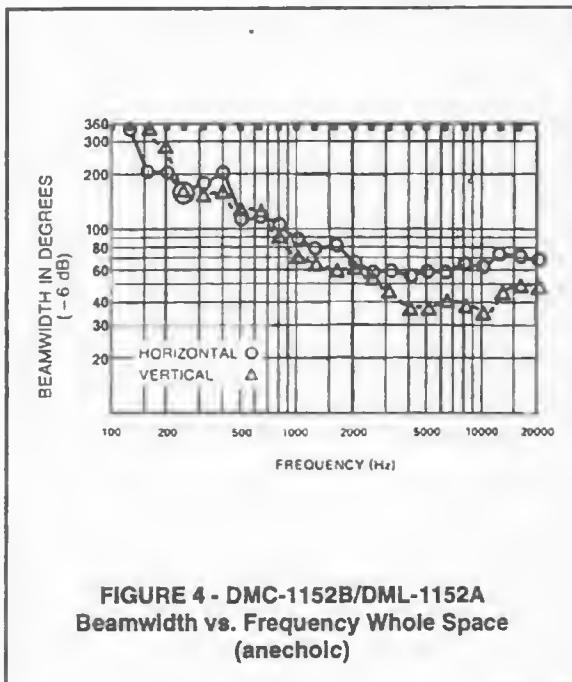
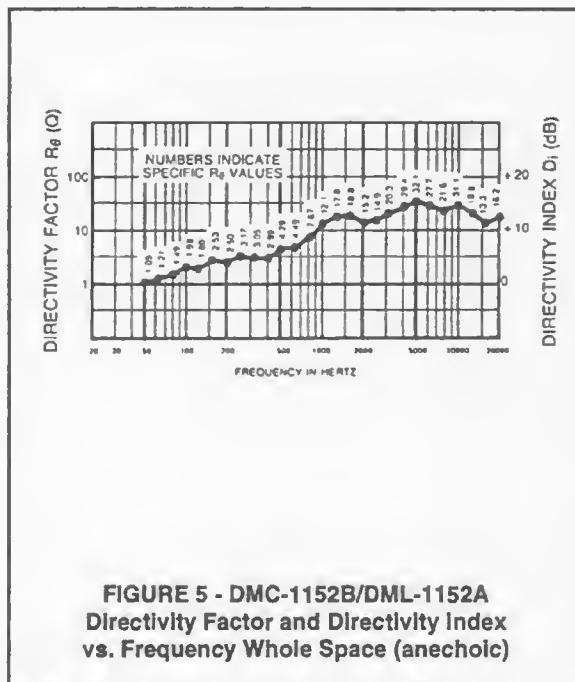

FIGURE 4 - DMC-1152B/DML-1152A
FIGURE 5 - DMC-1152B/DML-1152A
Frequency Response, Measured in Farfield, Calculated to One Meter on Axis, Swept One-Third-Octave Pink Noise, One Watt Into LF Midband (2.83 V at 250 Hz), Anechoic Environment, ± 3 dB (see Figure 2): 50-20,000 Hz Sound Pressure Level at One Meter, One Watt Input Power, Anechoic Environment, Band-Limited Pink-Noise Signal, High Frequency: 112 dB Low Frequency: 100 dB Typical System Maximum Continuous Sound Pressure Levels at One Meter, Anechoic Environment: 126 dB Typical System Maximum Peak Sound Pressure Levels at One Meter, Anechoic Environment: 132 dB Crossover Frequency: 1,100 Hz Beamwidth Angle Included by 6-dB-Down Points on Polar Responses, Indicated One-Third-Octave Bands of Pink Noise (see Figure 4), 1.2-20 kHz Horizontal: 60° (+25°, -5°)	1.2-20 kHz Vertical: 40° (+25°, -5°) Directivity Factor R_e (Q) 1.0-20 kHz Median (see Figure 5): 19.3 (+12.8, -7.3) Directivity Index D_e, 1.0-20 kHz Median (see Figure 5): 12.1 dB (+3.0 dB, -1.3 dB) Distortion, 120 dB SPL at 1 Meter, Shaped Spectrum (see Figure 6), Second Harmonic 100 Hz: 4.3% 800 Hz: 1.0% 2,000 Hz: 0.7% 5,000 Hz: 1.5% Third Harmonic 100 Hz: 0.7% 800 Hz: 1.4% 2,000 Hz: 0.7% 5,000 Hz: 1.7%